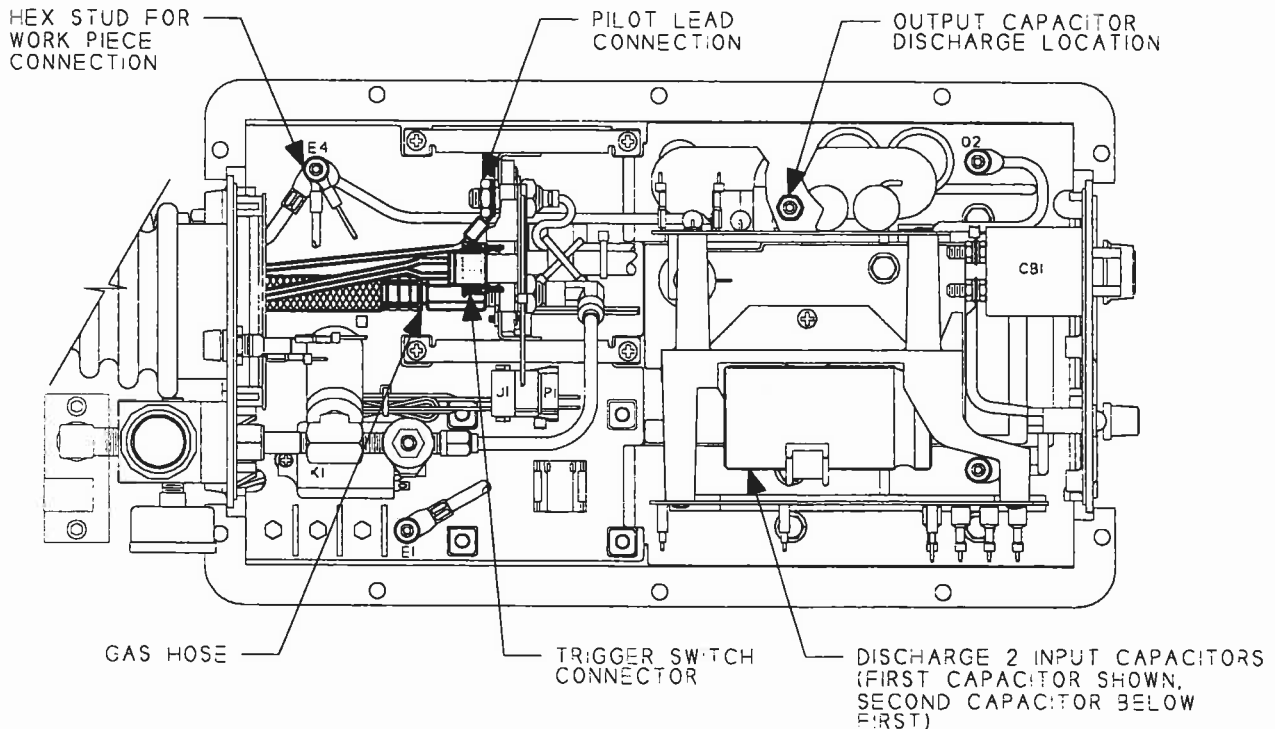

Figure 18 - StarCut Top View Cover Off
- A) Make sure the StarCut unit is disconnected, upright and secure. Remove the nuts from the ten (10) bolts securing the case top and the case bottom which sandwich the white chassis, push out the bolts. Save all hardware for later reassembly. Four (4) bolts may be longer if wireform guards are installed on your StarCut.
- C) Locate the two input capacitors inside the unit as shown in Figure 18, "StarCut Top View Cover Off". Being careful not to touch any metal parts, connect one end of the bleeder resistor assembly to one of the terminals of the top capacitor and attach the other end of the bleeder assembly to the other terminal. Leave bleeder resistor connected for at least 10 seconds.